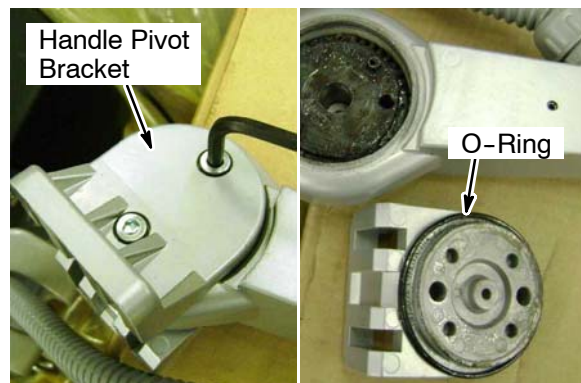

Fig. 4
4. Remove one of the two handle pivot brackets, two Allen head screws hold it place. Remove bracket to access gear (Figure 4). Carefully remove O-ring from bracket and set aside.